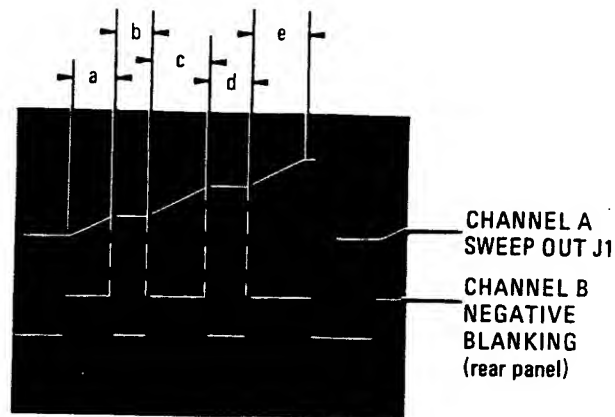

Figure 4-4. Sequential Sweep Ramp Compared in Time to Negative Blanking
- e. Adjust oscilloscope Channel A and Channel B to display waveform as shown in Figure 4-4.
- h. Relationship of sequential sweep ramp (Channel A) and Negative Blanking waveform (Channel E) should be as shown in Figure 4-4.